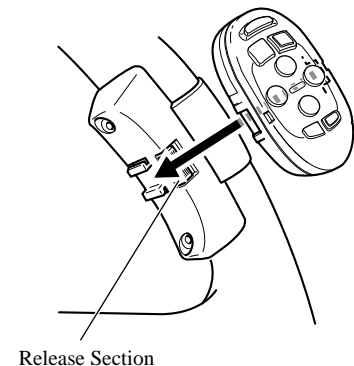

Fig. 18
4. Install the remote control unit in the holder. (Fig. 18)